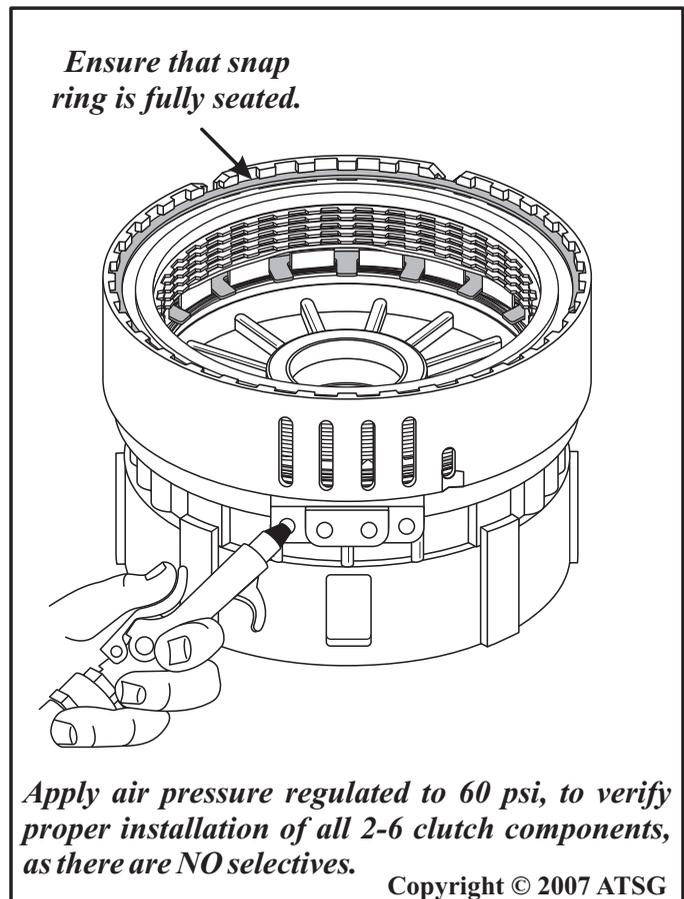

Figure 110
14. Ensure that the snap ring is fully seated and air check the 2-6 clutch to verify integrity, as shown in Figure 110.